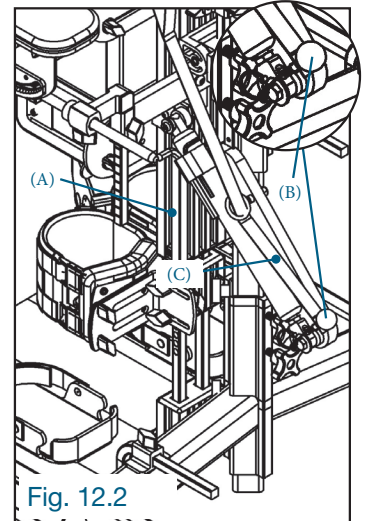

Fig. 12.2
12.2 TILT ADJUSTMENT (Fig. 12.2)